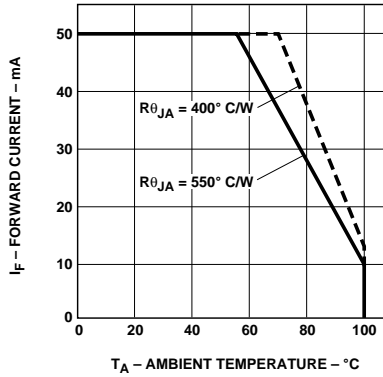

Figure 12. Maximum Forward Current vs. Ambient Temperature. Derating Based on T_j Max = 110°C.
1. Derate linearly as shown in Figure 12.